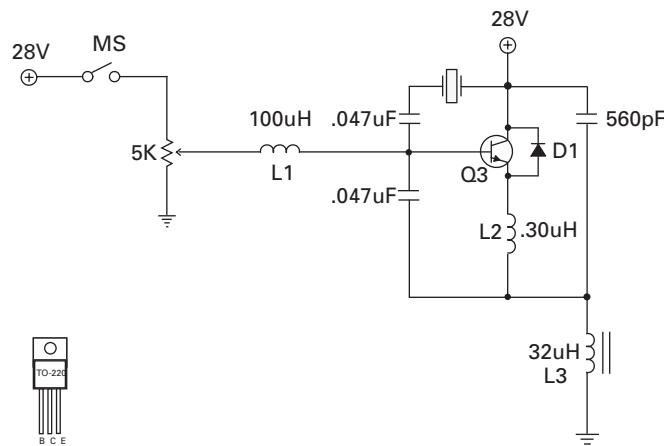

FIGURE 7-9 Simplified schematic of ultrasonic oscillator
Let's look at the ultrasonic oscillator in more detail, using Figure 7-9 as a guide. As discussed earlier, Q3, the BU406 transistor, is forward-biased when the magnetic switch (MS) is closed. The 5K Ω potentiometer establishes the amount of forward bias and therefore the output of the oscillator. The 100 μ H choke (L1) decouples the RF generated in the oscillator from the 28VDC supply line. At the operating frequency of about 1.2MHz, the choke would present the following impedance: